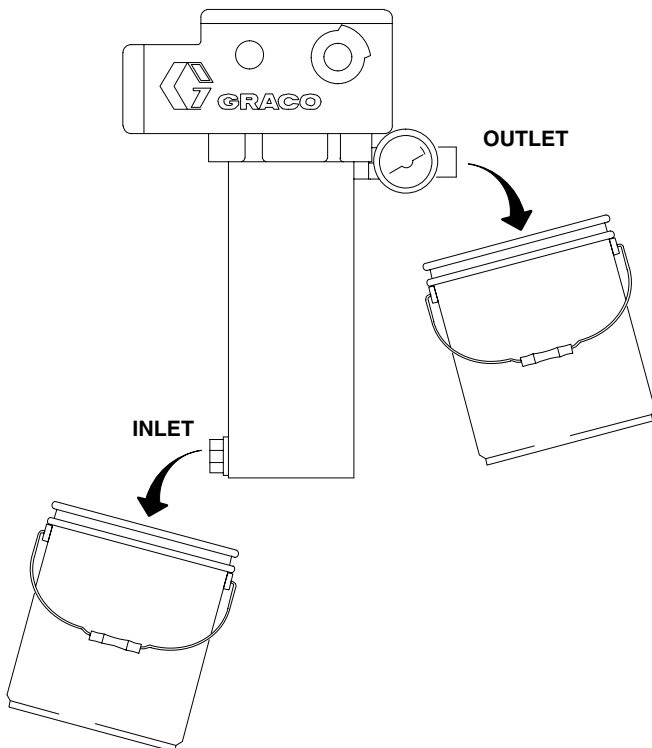

Fig. 10
2. Remove the inlet and outlet fittings from the heater, having a container ready to catch the fluid. See Fig. 10.